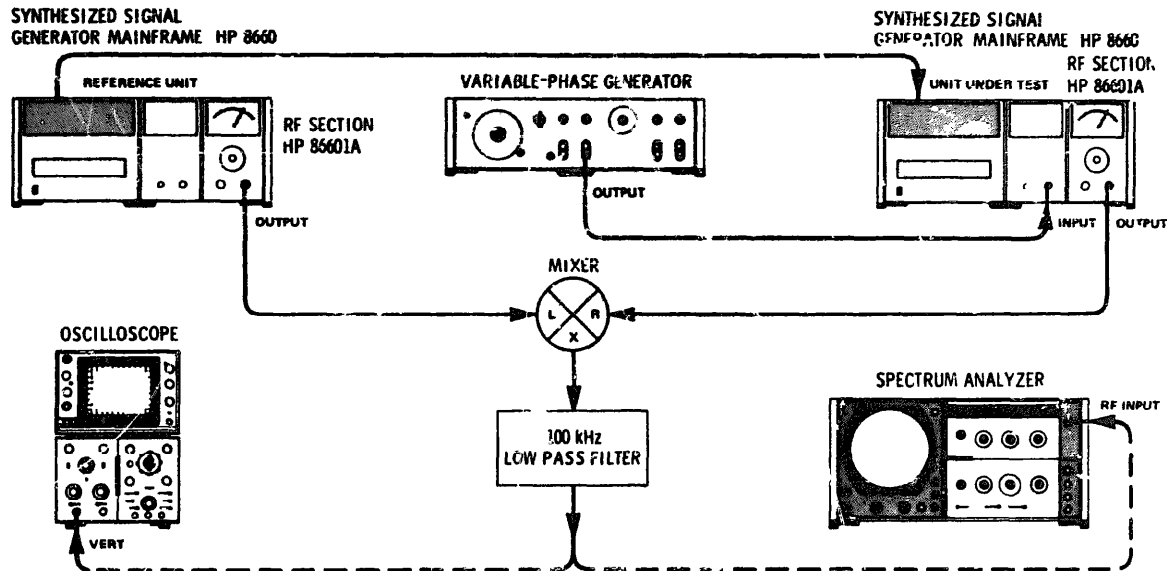

Figure 4-11. Amplitude Modulation Carrier Envelope Distortion Test Setup
1. Connect the equipment as shown in Figure 4-11.